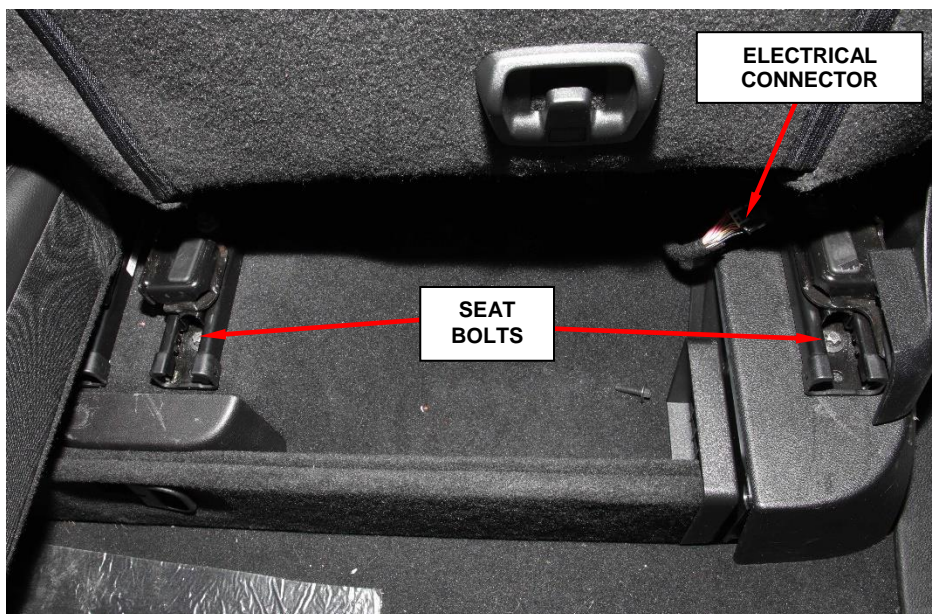

Figure 1 – Rear Seat
1. Position the seats in the full rearward position and lift the seat cushion (Figure 1).
2. If equipped, disconnect the wire harness connector (Figure1).
3. Remove the front seat bolts on both rear seats (Figure 1).